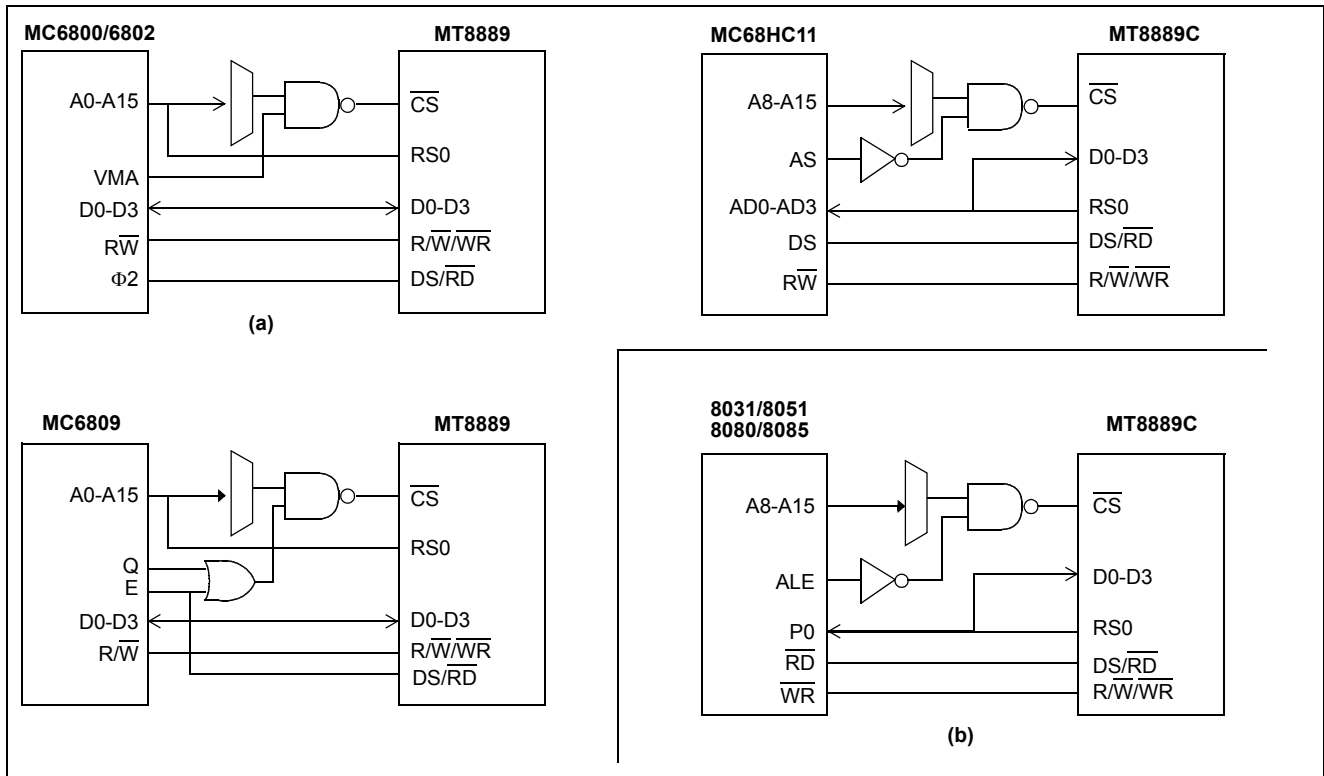

Figure 14 - a) & b) - MT8889 Interface Connections for Various Intel and Motorola Micros
Figure 20 shows the timing diagram for the Motorola MC68HC11 (1 MHz) microcontroller. The chip select ( $\overline{CS}$ ) input is formed by NANDing address strobe (AS) and address decode output. Again, the MT8889C examines the state of DS on the falling edge of  $\overline{CS}$  to determine if the micro has a Motorola bus (when DS is low). Additionally, the Texas Instruments TMS370CX5X is qualified to have a Motorola interface. Figure 14(a) summarizes connection of these Motorola processors to the MT8889C DTMF transceiver.
Figures 21 and 22 are the timing diagrams for the Intel 8031/8051 (12 MHz) and 8085 (5 MHz) micro-controllers with multiplexed address and data buses. The MT8889C latches in the state of RD on the falling edge of  $\overline{CS}$ . When RD is high, Intel processor operation is selected. By NANDing the address latch enable (ALE) output with the high-byte address (P2) decode output,  $\overline{CS}$  can be generated. Figure 14(b) summarizes the connection of these Intel processors to the MT8889C transceiver.